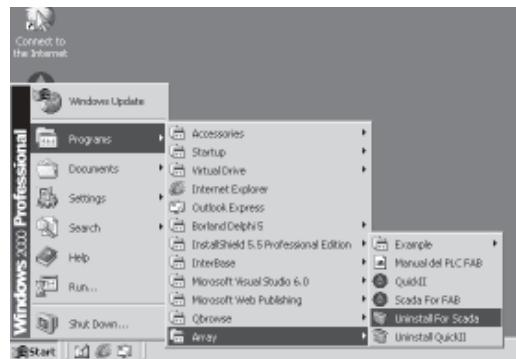

Fig. 2-8 Uninstallation System 1
Step7. Uninstall the system. This task needs to be carried out when the system is not needed or the system does not work normally. (Certainly, data needs to be backed up before the software is uninstalled. We will explain how to backup the programme in the following chapters). Then use add and remove programs under the system Control Panel, Fig.2-8, highlight **Scada for FAB** and then click **Add/Remove** and follow the prompts.